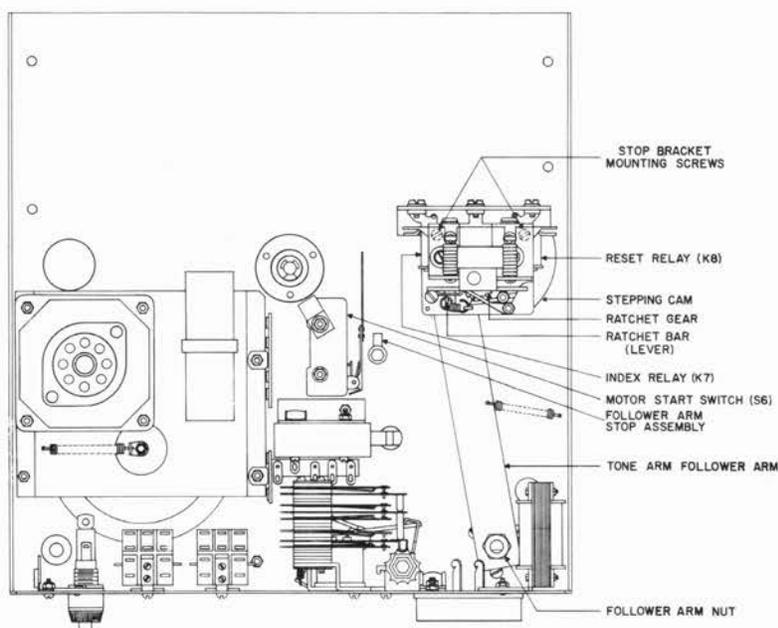
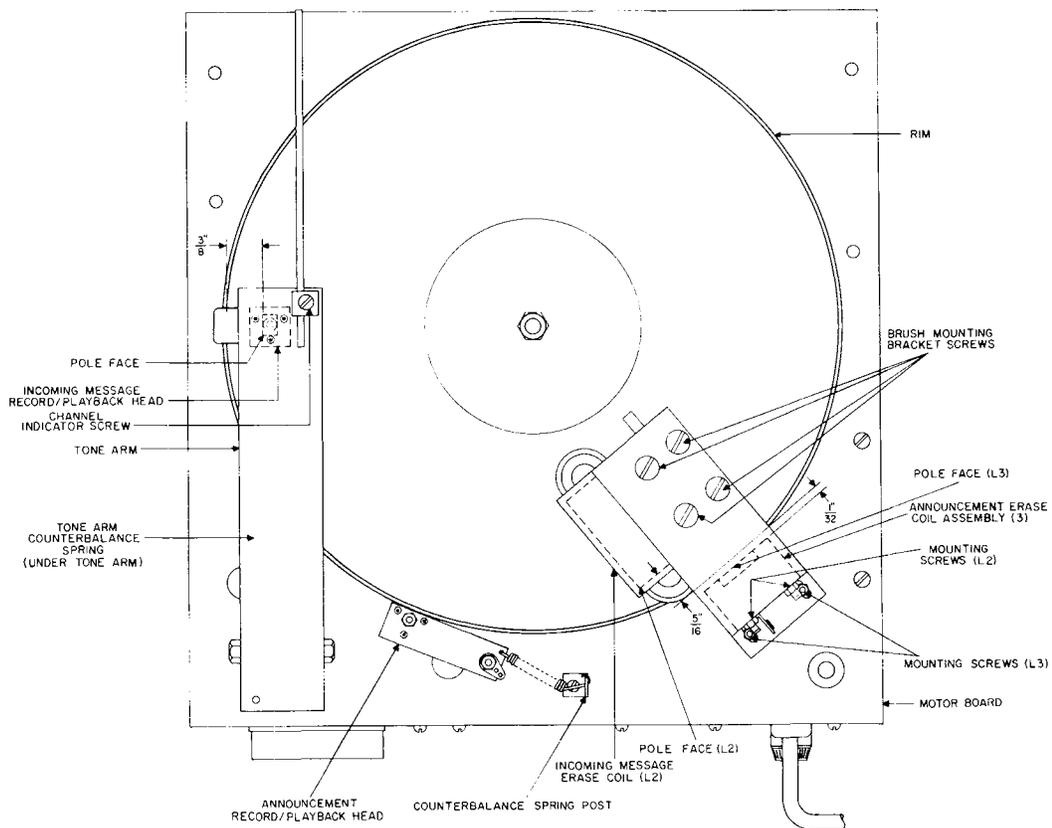

Figure 2. Motorboard, Bottom View.
Figure 3. Motorboard, Top View.
4.02 Manually operate reset relay K8 (Figure 2). This will return the stepping cam to its reset, or call number one, position. Loosen the stop bracket mounting screws on the stepper assembly and position them so that the ratchet bar (lever) will move the ratchet gear one full step when index relay K7 is manually operated.
4.03 Manually operate reset relay K8 (Figure 2). Loosen the nut holding the follower arm. Move the tone arm assembly until the outside edge of the record/playback head pole face (edge facing toward the outside of turntable) is $\frac{3}{8}$ inch from the edge of the turntable (Figure 3). Tighten the nut.
4.04 Manually operate index relay K7, 13 times. With the follower arm in this position, switch S6 (Figure 2) should be operated. If it is not, adjust its lever arm, being certain that there is perceptible follow after the switch operates.
4.06 Manually operate relay K8. Loosen the screw (Figure 3) on the tone arm holding the channel indicator (located at the front end of the tone arm) and position the pointer to indicate channel number 1 in the countdown window. Tighten the screw.
4.07 Loosen the 2 screws which fasten the announcement erase coil (L3) assembly (Figure 3) to the motorboard. Position the assembly so that the pole face of the announcement erase coil (L3) is $\frac{1}{32}$ inch away from the announcement recording tape on the rim of the turntable (Figure 3). Tighten the screws.
4.08 Loosen the 2 screws holding the incoming message erase coil (L2) assembly (Figure 3). Position the assembly so that the pole face of the incoming message erase coil is 1/32 inch away from the recording surface and 5/16 inch from the edge of the turntable. Tighten the screws.
4.09 Loosen the 4 screws holding the brush mounting bracket (Figure 3). Position the brush so that its edge aligns with the edge of the incoming message disc. Tighten the screws.
4.10 Rotate the selector switch to its "CHECK" position. Polarize the a-c plug and listen at the microphone for minimum noise. Adjust the announcement record/playback head counterbalance spring (by bending spring post) so that the announcement head will produce 30-grams of pressure against the recording tape. (Figure 3). Visually pre-align the announcement head, and make the electrical adjustment for this head as indicated in Section 997-402-501.
4.11 Adjust the tone arm counterbalance spring assembly (Figure 3) so that the record/playback head produces 30-grams pressure against the recording disc. Visually pre-align the incoming message record/playback head, and make the electrical adjustment for this head as indicated in Section 997-402-501.